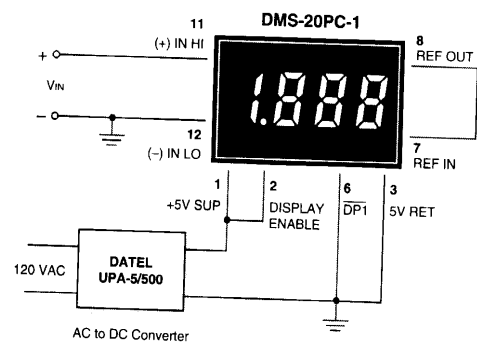

Figure 2. Single-Ended Input Configuration
**1. Single-Ended Input Configurations:** True single-ended measurements can be made with any DMS-20PC meter. The circuit of Figure 2 avoids problems normally associated with ground-loop currents. Separate ground runs should be used for 5V RETURN (pin 3) and (–) INPUT LO (pin 12).